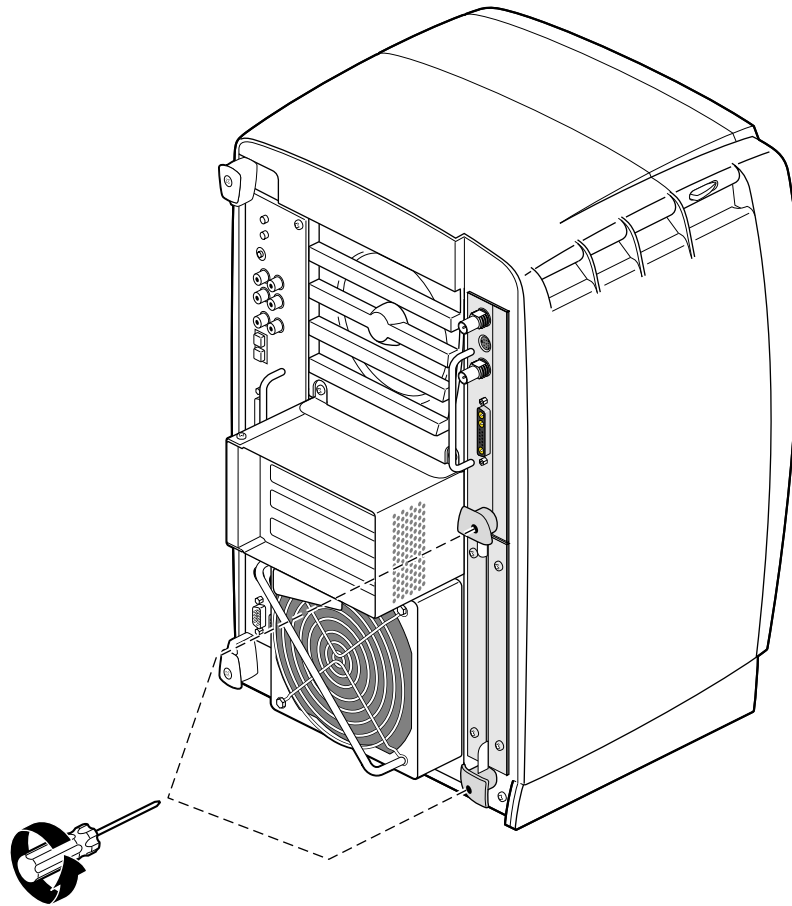

Figure 1-6 Removing the XIO Tri-Module Screws
1. Loosen the two captive screws in the XIO Tri-Module handles with the supplied Phillips screwdriver, as shown in Figure 1-6, until the screws are disconnected from the chassis.